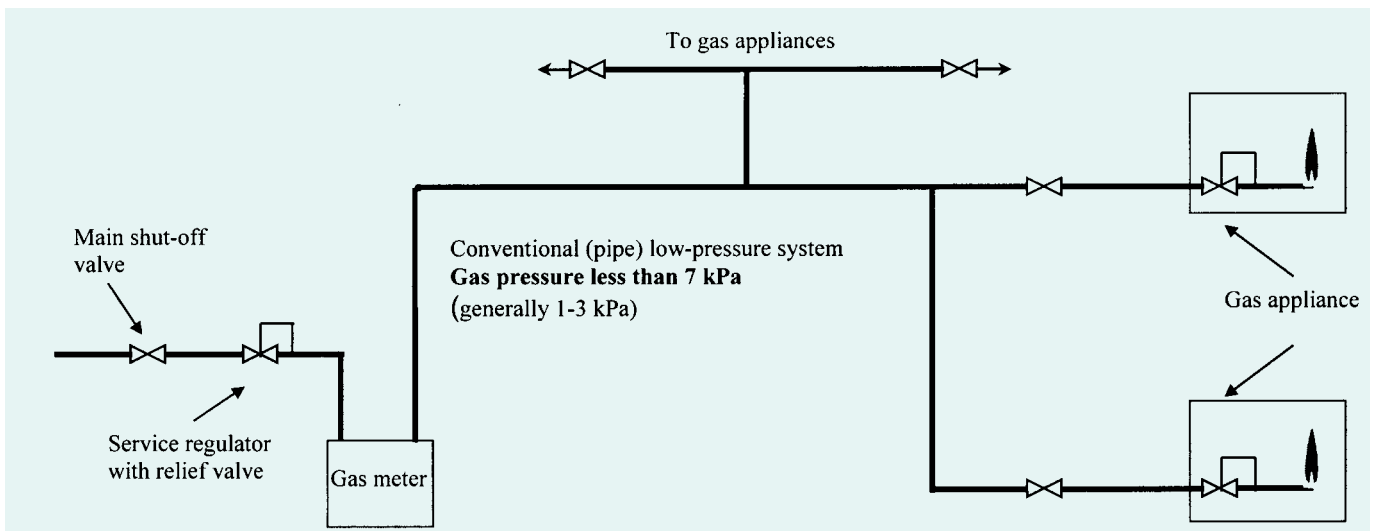

Fig 1: Typical (conventional) installation under current code
Most domestic natural gas installations comprise conventional branched copper or galvanised pipework systems that run from the meter to all of the appliances and operate at pressures less than 7 kPa (and generally between 1 and 3 kPa) as shown in figure 1.
- If all of the installation is to be converted to low pressure (as shown in figure 1), contact the gas supplier/GMS owner. Request that the Service Regulator be changed to reduce the metering pressure to the normal level for domestic natural gas (less than 7 kPa) and the meter factor amended.